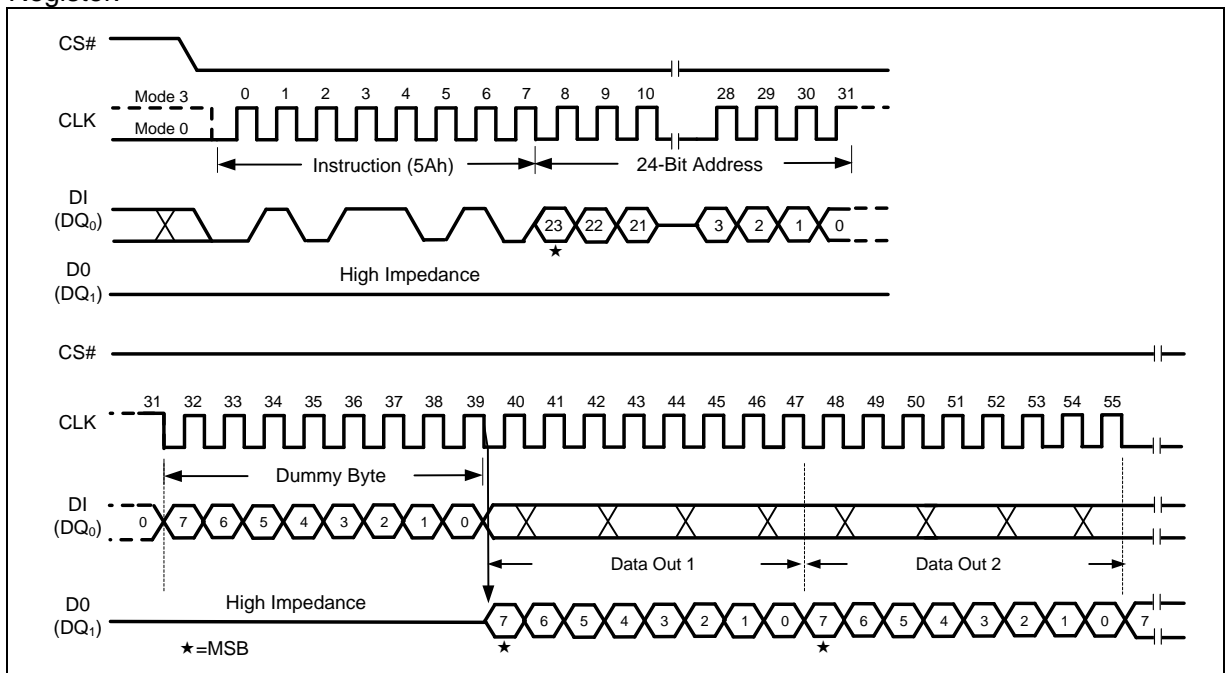

Figure 63 Read SFDP Register Instruction
The Read SFDP instruction is initiated by driving the /CS pin low and shifting the instruction code “5Ah” followed by a 24-bit address (A23-A0)(1) into the DI pin. Eight “dummy” clocks are also required before the SFDP register contents are shifted out on the falling edge of the 40th CLK with most significant bit (MSB) first as shown in Figure 63. For SFDP register values and descriptions, refer to the following SFDP Definition table.